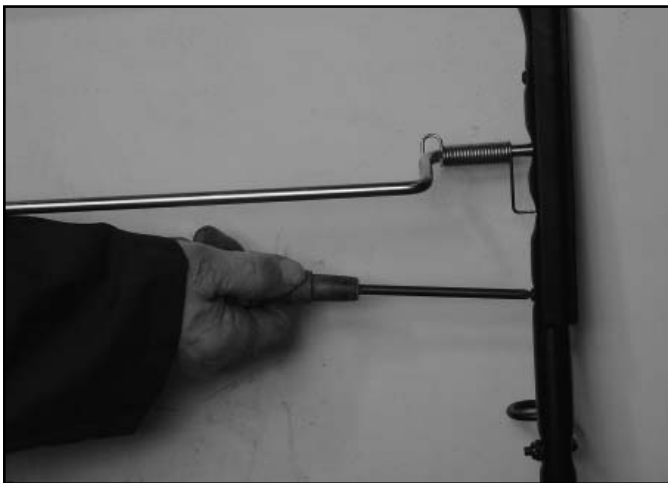

Fig 233
8. If you need to replace the traction control rod or either of the springs, one of the handle guides will need to be removed. The guides are held on by 2 screws (Fig. 233).